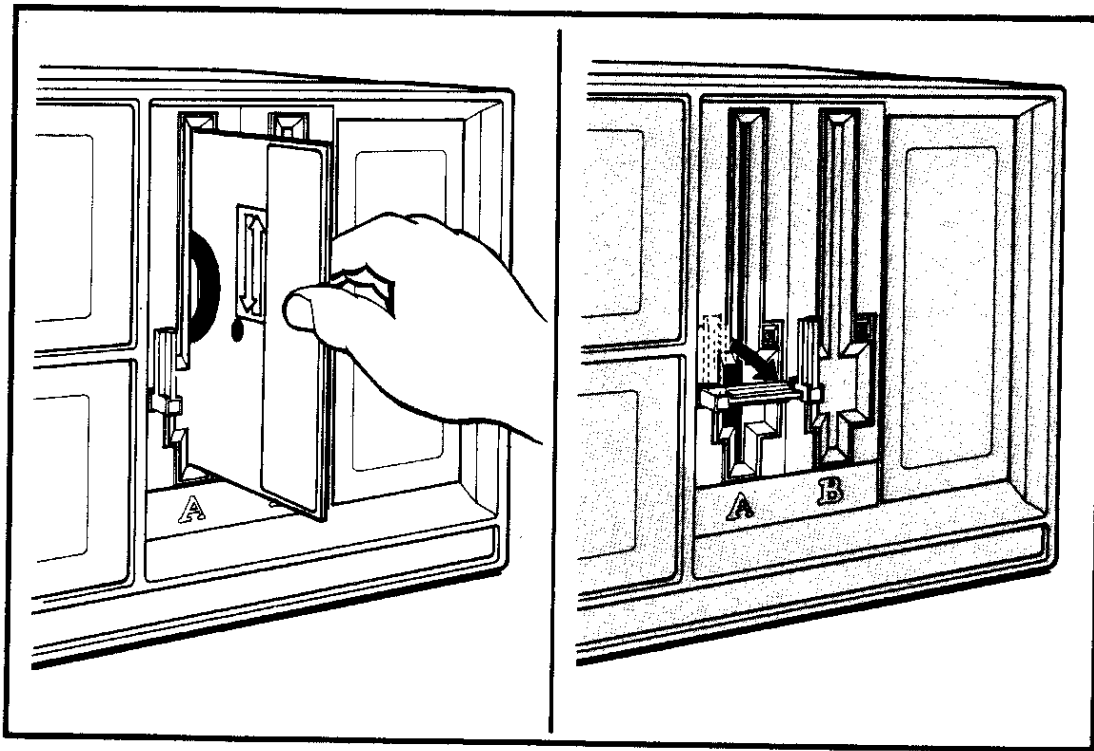

Figure 2-8: INSERTING THE DISKETTE
3. With its label to the left and toward you, insert the diskette in the drive slot (Figure 2-8). Gently push the diskette all the way in, until it comes to a stop. **DO NOT FORCE THE DISKETTE.**